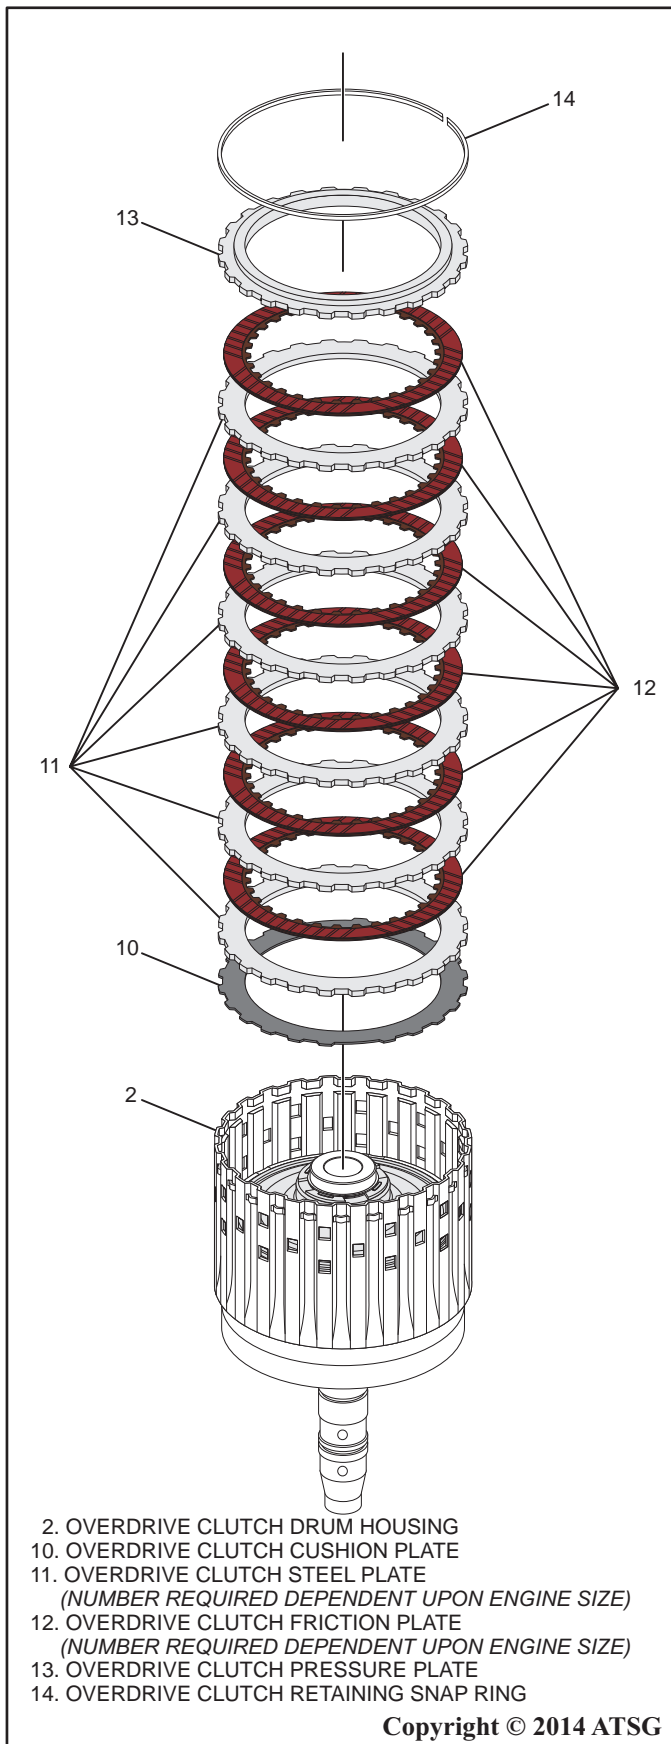

Figure 78
20. Assemble the overdrive clutch drum by installing the cushion plate, a steel plate, a friction plate, then alternate steel and friction plates as shown in Figure 78.
21. Install the overdrive clutch pressure plate and retaining snap ring as shown in Figure 78 making sure the snap ring is properly seated in the snap ring groove.